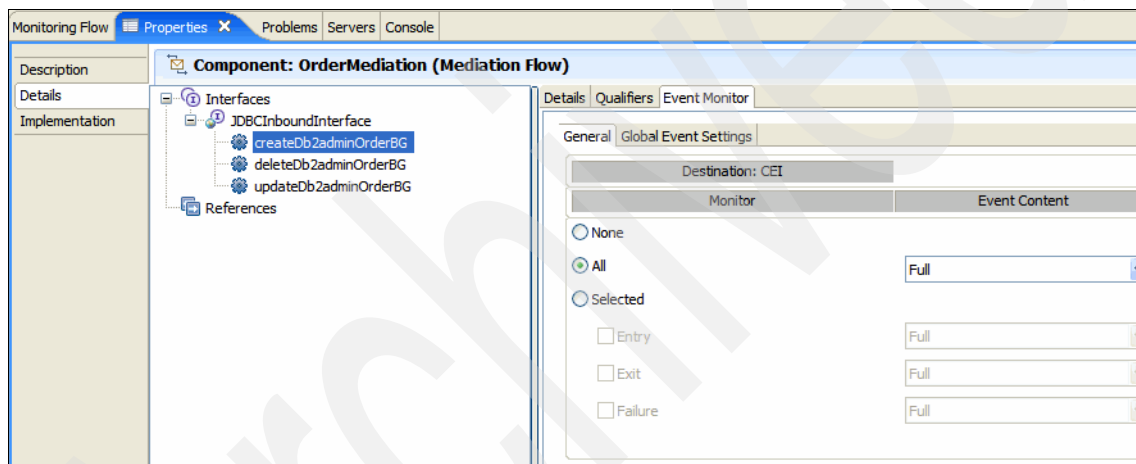

Figure 6-96 General Event Settings of OrderMediation component
- b. Click the **Properties** tab and the **Details** subtab (Figure 6-96).